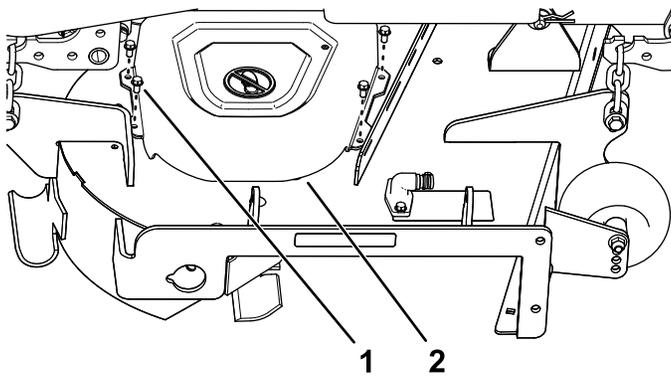

Figure 7
3. Remove the 4 screws (1/4 x 1/2 inch) securing the right belt cover, and remove the belt cover (Figure 7).